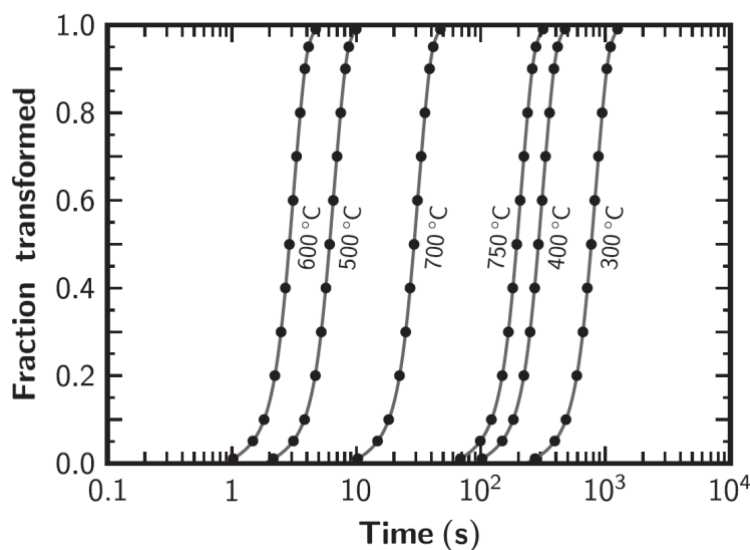

Figure 1 Crystallization of a glass as a function of time for various transformation temperatures.
5. Figure 1 gives a set of rate of transformation curves for the crystallization of a glass. Using this information, calculate and plot a TTT (time–temperature–transformation) diagram for this crystallization that includes curves for 10, 50, and 90% transformed with temperature on the vertical axis versus log (time) on the horizontal axis.